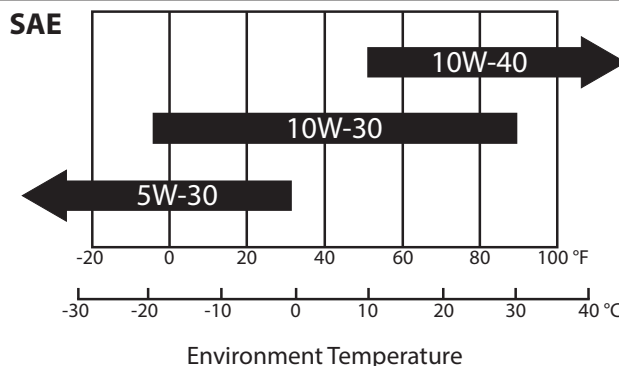

FIGURE 7
5. Add engine oil, 10W-30 (API Service SJ, SL or better). Fill to the upper level. For extreme high and low temperature conditions refer to SAE chart. **SEE FIGURE 7**